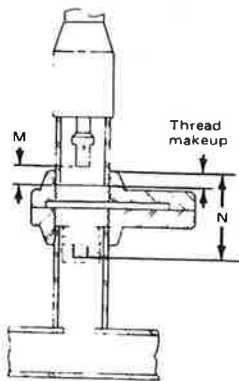

Figure 51. Threaded Valve Adapter Calculate Distance
- A. With boring bar fully retracted and feed tube at zero mark on body tube, calculate distance plug holder travels to contact bottom of recess in plug. See Figures 51 and 52.